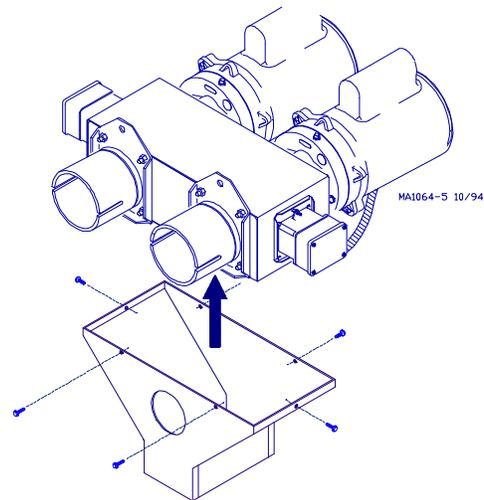

Figure 4.
5. Secure the Hopper Weldment to the bottom the Control Unit Body, as shown in Figure 4, using hardware provided.